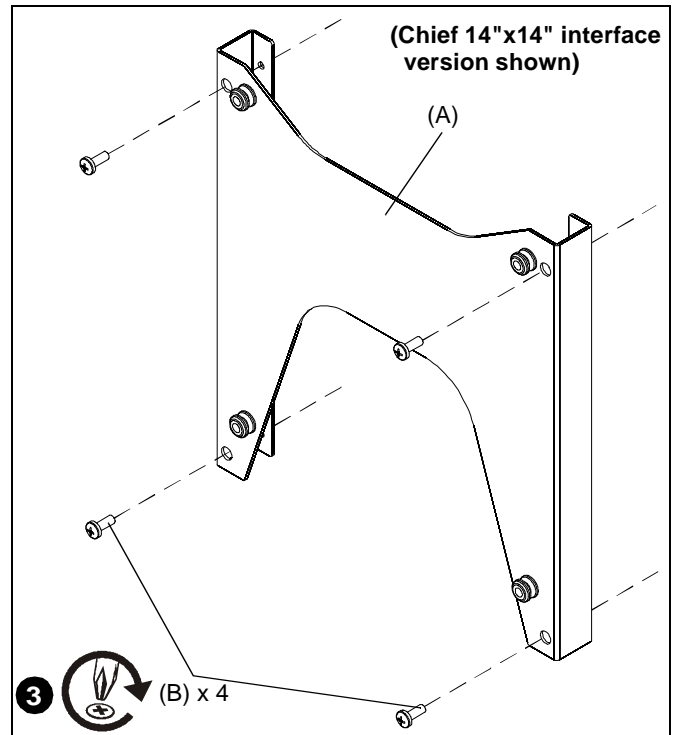

Figure 2
2. Attach the interface bracket (A) to the mount's vertical uprights using four 5/16-18 x 1" button head cap screws (C) and the 3/16" hex key (E).
3. Attach interface bracket (A) to back of display using four M6 x 16mm Phillips cap head screws (B). (See Figure 2)